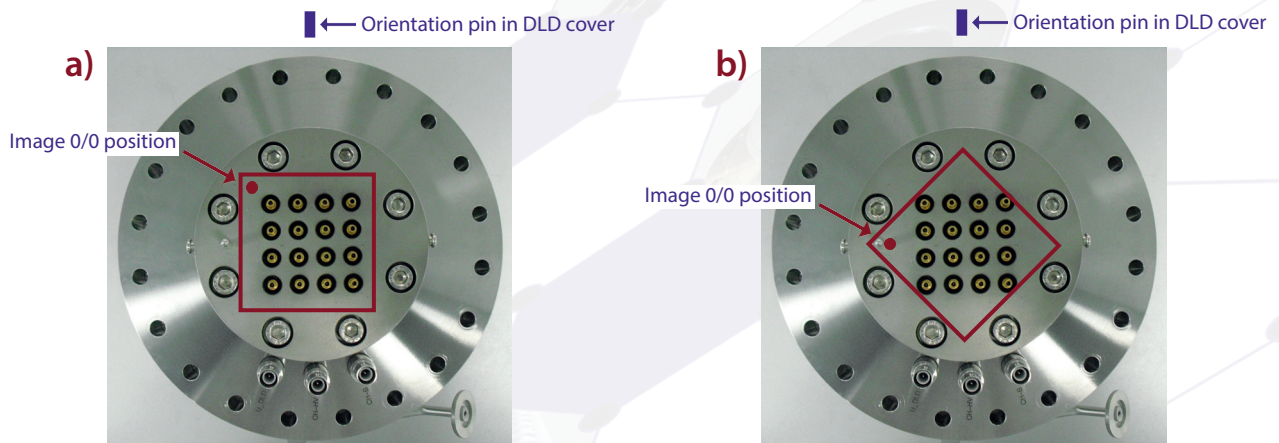

Figure 3: 0/0 position of the DLD image (red dot) for the a) 0° system and b) 45° system.
- The red dot in **Figure 3** marks the 0/0 positions of the two DLD images (0° and 45° system). The 0/0 position of the 0° corresponds to the upper left corner of the image in the software.